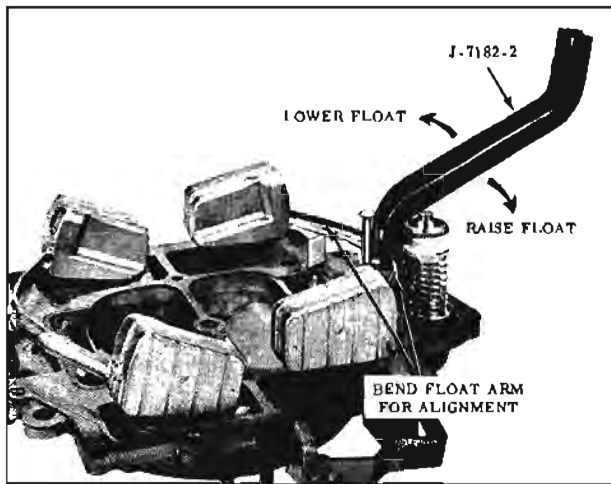

Fig. 9-184 Adjusting Float Level (Primary Shown)
4. If necessary to adjust, bend the float arm as indicated in Fig. 9-184.